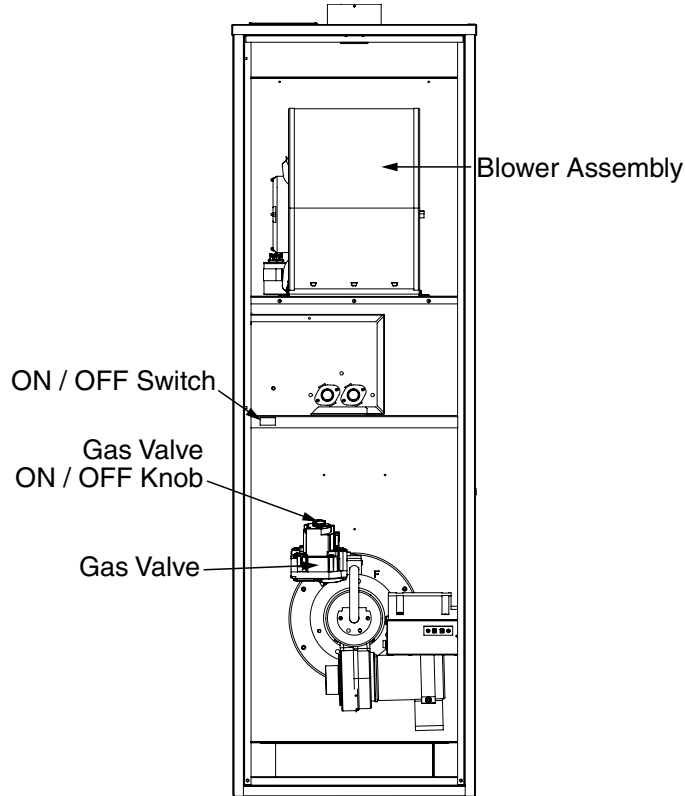

Figure 3. CMF3 Gas Furnace Components
2. Is the On/OFF switch (inside the blower compartment) turned on? See Figure 3, (page 6).
The furnace components shown in Figure 3 will help identify and locate various parts of the furnace. The component you need to familiarize yourself with is the gas valve. You will use this to turn the furnace on and off. There are no user serviceable parts. All repairs must be done by a licensed HVAC technician.